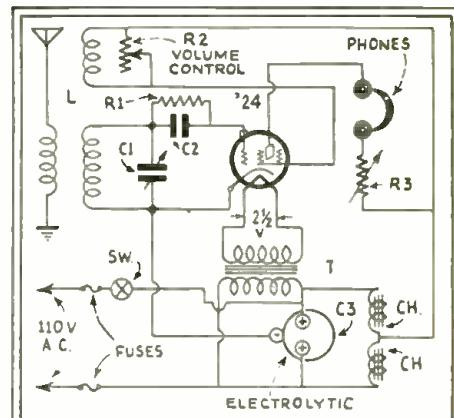

Fig. 4
**N** Fig. 4 is illustrated a dynatron detector circuit which has lots of pep, and on many stations is too loud for comfort when using headphones; the tone quality is excellent, and selectivity is